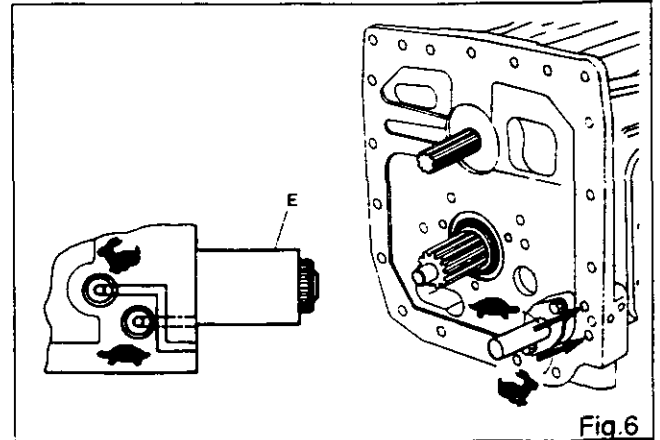

Fig.6
Solenoid valve E, which is mounted at the bottom of the RH cover (Fig. 6), opens and feeds hydraulic oil to chamber (a) situated at the rear of piston (13) (Fig. 9). The piston moves forward and applies pressure to fork (20).